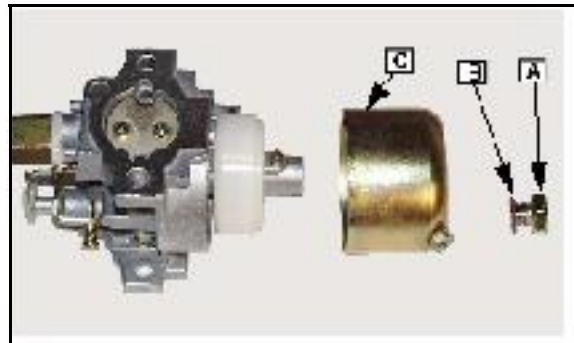

Fig. 27
1. Remove float bowl mounting screw (A), washer (B) and float bowl (C) Fig. 27).